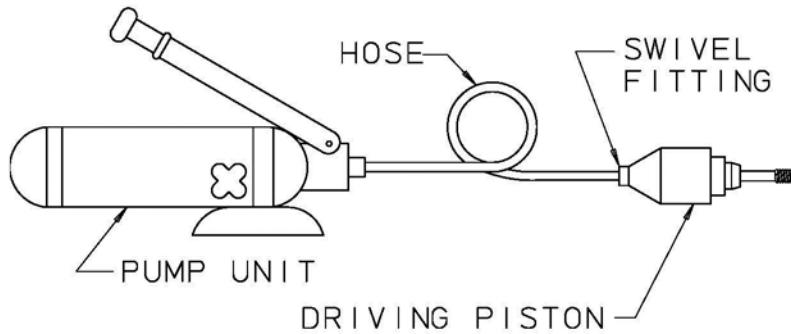

FIGURE 13
R.F.O. Lee Plugs are installed with Lee R.F.O. Hydraulic Installation Tool CUTX0100000B (see Figure 13 below) and the appropriate installation tool set (see Table 11 on Sheet 42). The proper installation method is as follows: